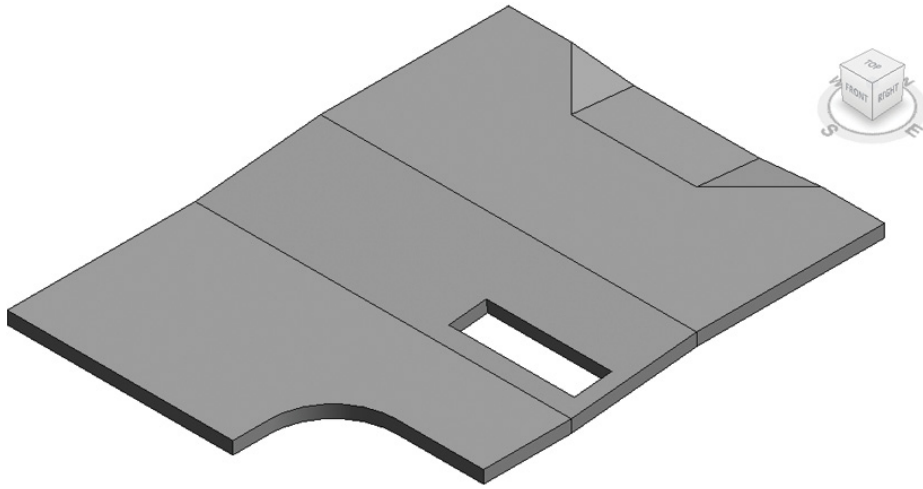

FIGURE 3.11 The finished opening
2. Sketch an opening $10' \times 3'$ ($3 \text{ m} \times 1 \text{ m}$) in the center floor panel. The result resembles Figure 3.11.